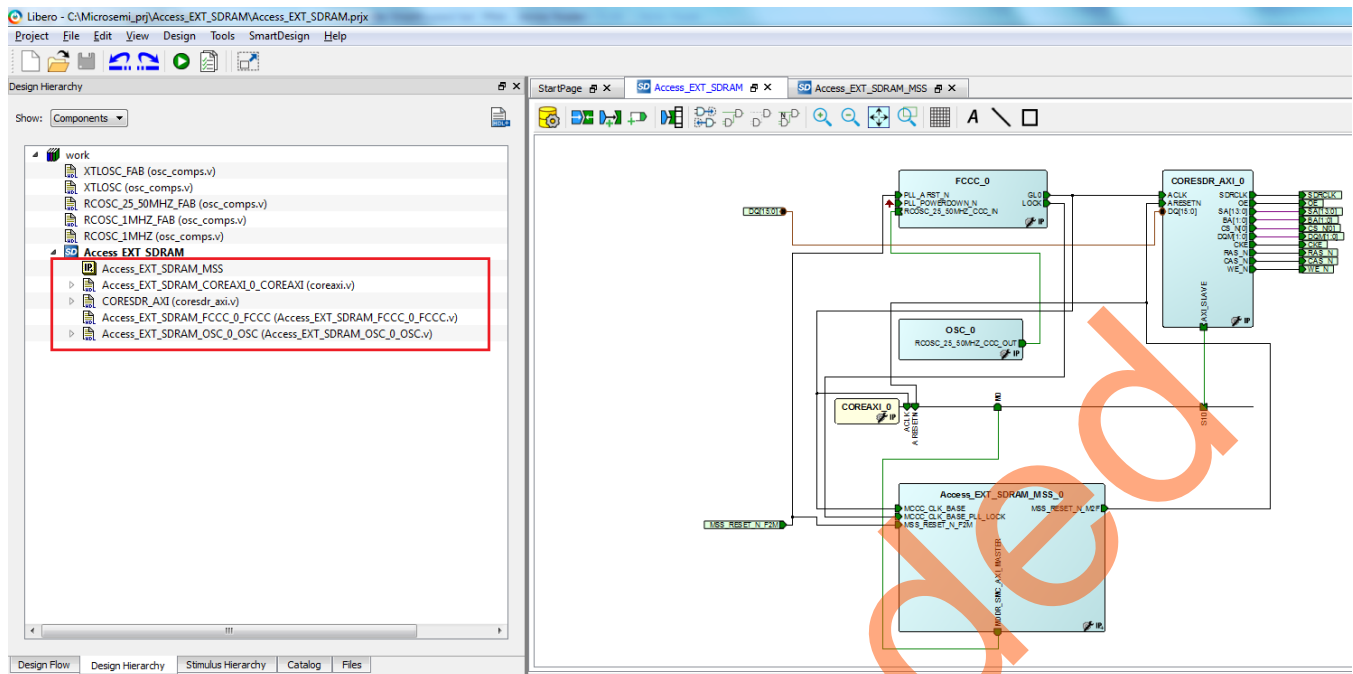

Figure 26. Design Hierarchy
3. After generation, the design hierarchy can be found in the **Design Hierarchy** pane of the Libero SoC, as shown in Figure 26.